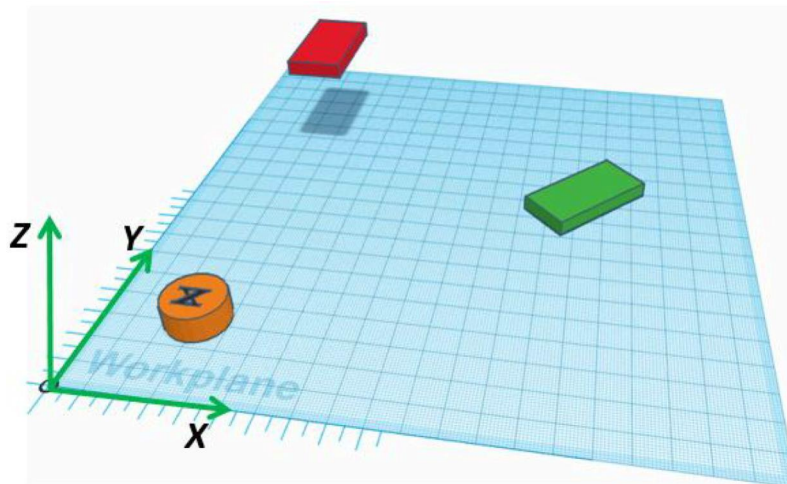

FIGURE 1. SYSTEM LAYOUT: MOUNTING BASE AND WORK PIECES
The layout of the system where your robot is going to work is shown in Figure 1. Your robot base needs to be placed on top of the plate (orange cylinder). It should pick the green piece, and place it on top of the red piece. The dimensions, positions and orientations of these components are shown in Table 1.
- 2) Determine the modified DH parameters for the SCARA robot of Figure 1. NOTE: parameters like link offset (d) or link length (a) should be assumed intuitively in this first iteration step. Joint twist( $\alpha$ ) can be determined from the figure
- 5) Compute the inverse kinematics for the red and green work pieces as shown in Figure 1, if the inverse kinematics method can not find a solution, go to step 2 and modify link offsets (d) and lengths (a) . Be careful with the orientation of the tool. Remember a robot target is not just its position, but also its orientation.